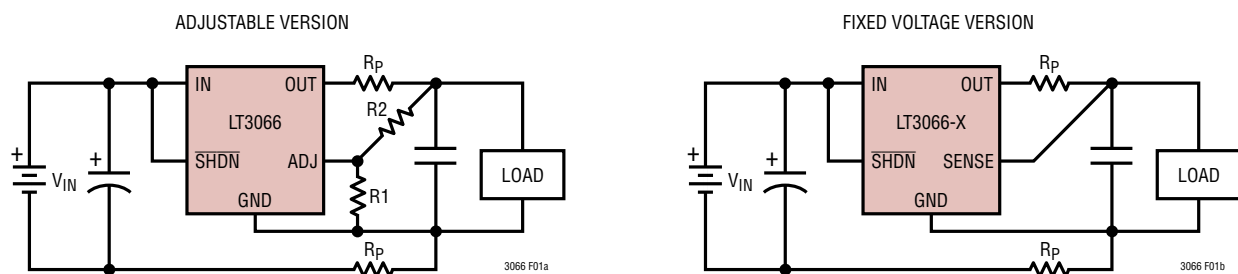

Figure 1. Kelvin Sense Connection
**INFILT (Pin 1):** Filtered Input. This pin is connected to IN through a  $\sim 140\Omega$  on-chip resistor. To improve PSRR, at frequencies greater than 10kHz connect up to a  $0.47\mu\text{F}$  capacitor from INFILT to GND (see Figure 1). If improved PSRR is not needed, connect the INFILT pin to IN.
At output voltages above 0.6V, the resistor divider connected to the ADJ pin is used to regulate voltage at the load. Parasitic resistances of PCB traces or cables can therefore result in load regulation errors at high output currents. To eliminate these, connect the resistor divider directly to the load for a Kelvin sense connection, as shown in Figure 1.